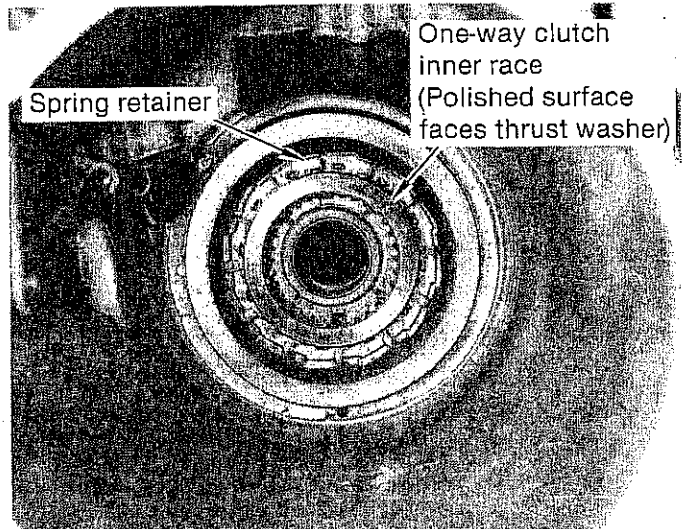

FIGURE 53
STEP 5. Inspect one-way clutch outer race for wear or galling. Replace if necessary. Position case with front face up. Install two-tab one-way clutch inner race thrust washer. Install spring retainer. Lubricate thrust washer with automatic transmission fluid. Install one-way clutch inner race with polished, machined face against the thrust washer. (See Fig. 53) Install twelve rollers first and then twelve accordion shaped springs. If any springs are broken or distorted, replace them.